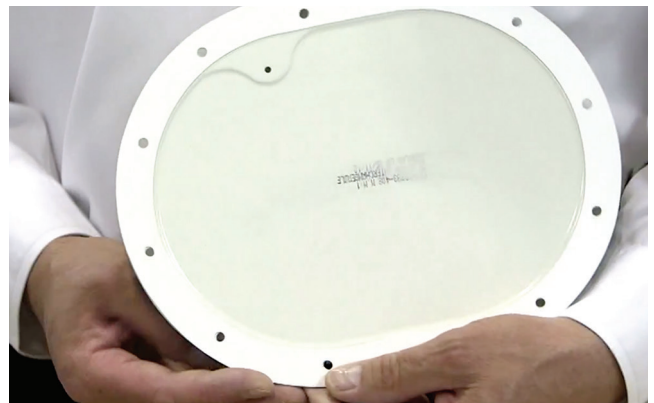

Figure 5: Inspecting the gasket
4. Prior to closing the panel, visually inspect the gasket for damage (Figure 5). Refer to the aircraft maintenance manual for inspection criteria and use/re-use cycles.